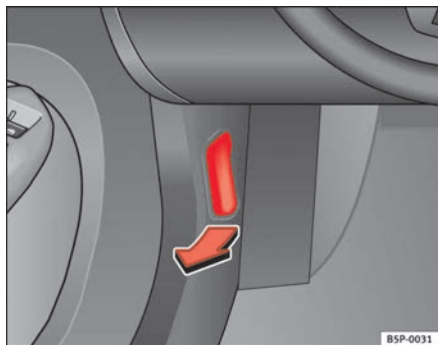

Fig. 160 Detail of foot-well area on driver's side: lever for unlocking the bonnet.
- To release the bonnet, pull the lever under the dashboard ⇒ fig. 160 in the direction indicated (arrow). The bonnet will be released by a spring action ⇒ ⚠.